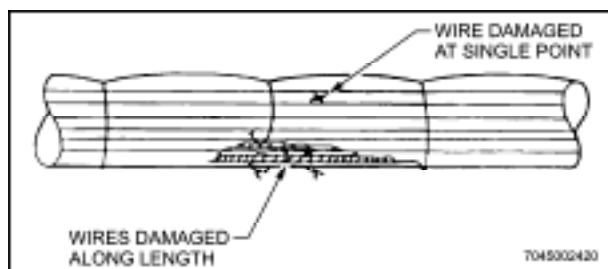

Figure 5-1 Damage Assessment
2. If an aircraft wire is damaged at a single point and there is sufficient slack in the wire, the damaged wire should be repaired with a single splice. If a wire is damaged along its length, the damaged segment must be cut out and replaced with a jumper wire and two splices (Figure 5-1).